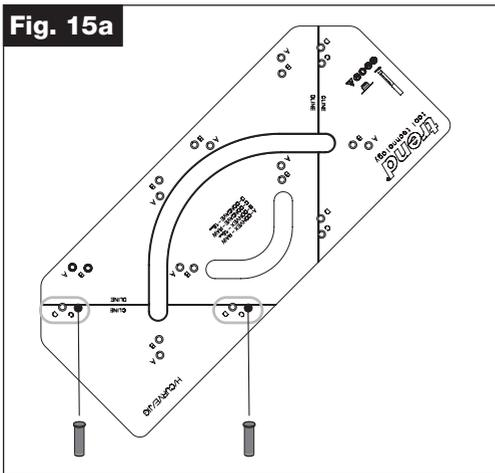

Fig. 15b
- For raw finish, insert location pins into Door Concave Pin Holes marked "D" (Fig. 15b).